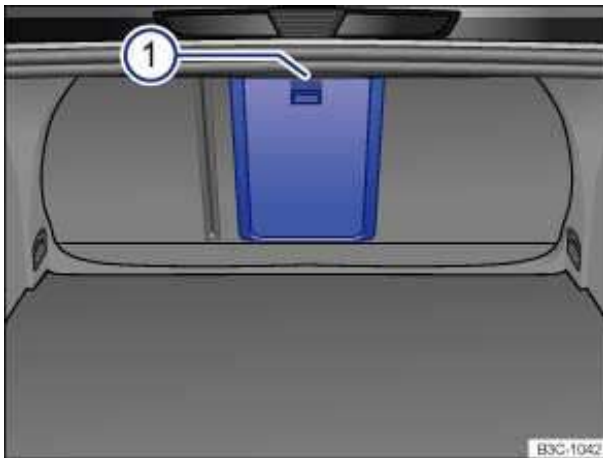

Fig. 90 In luggage compartment: Release lever with marking 1.
- Fold the pass-through cover back until it engages securely. The red marking on the luggage compartment side ⇒ fig. 90 \(1\) should not be visible.